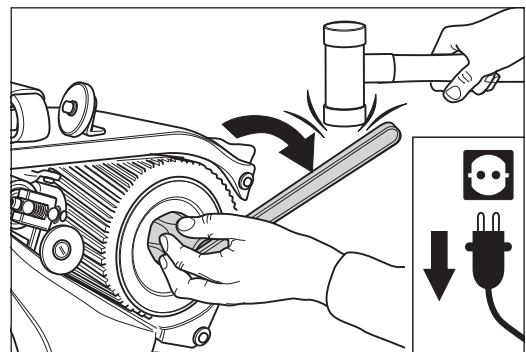

Fig. 86 Release the drum nut **clockwise (left-hand thread)**, if necessary by knocking gently with a soft hammer. **Never use a steel hammer!**
- 7 Open the drum nut by turning the box wrench (see tool kit) **clockwise (left-hand thread)** and unscrew the drum nut (Fig. 86).